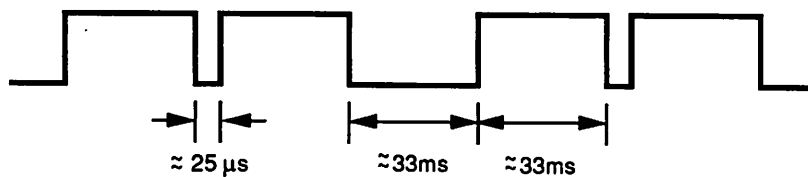

FIGURE 3-5. $\overline{\text{IRQ}}$ WAVEFORM
2. U4 pin 3 is pulsing as shown in Figure 3-5.